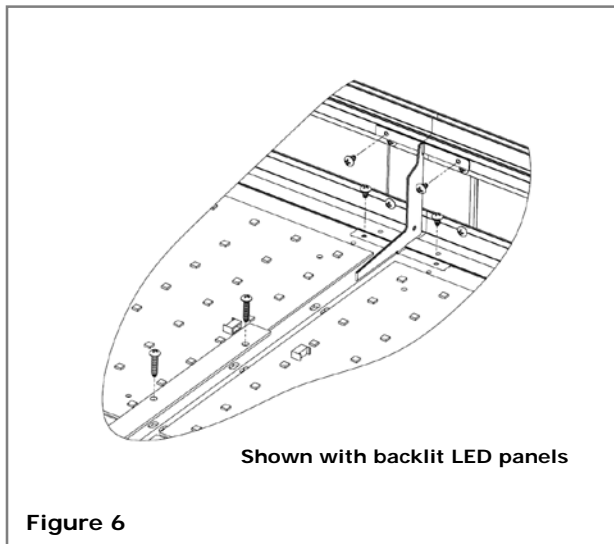

Figure 6
5. Locate the connector strip and place it over the joint between the two sections. Center the strip in the box so that the holes align on both sections. Install screws (obtain locally) through the connector strip, back panels, and into the mounting wall. **See Figure 6.**